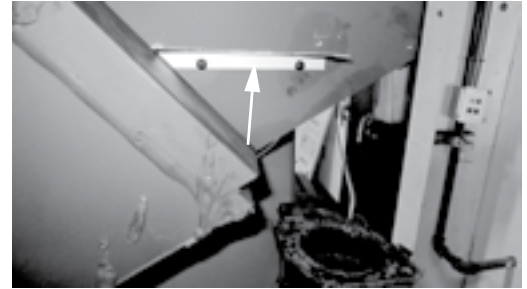

Figure 21.3
2. Using a Phillips head screwdriver and two screws to attach Filler Bracket (**Figure 21.3**).